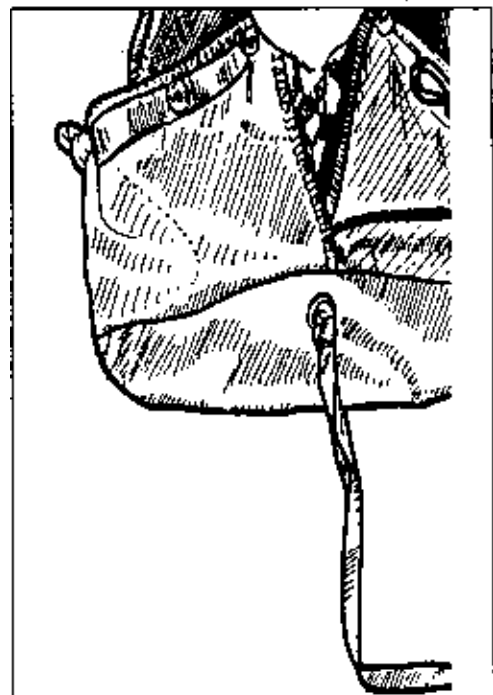

Figure 2
Step 8 The main parachute is now ready to pack according to the manufacturer's instructions. The main toggles stow into the pocket with the excess hidden by the velcro covers as shown in *Figure 2*.